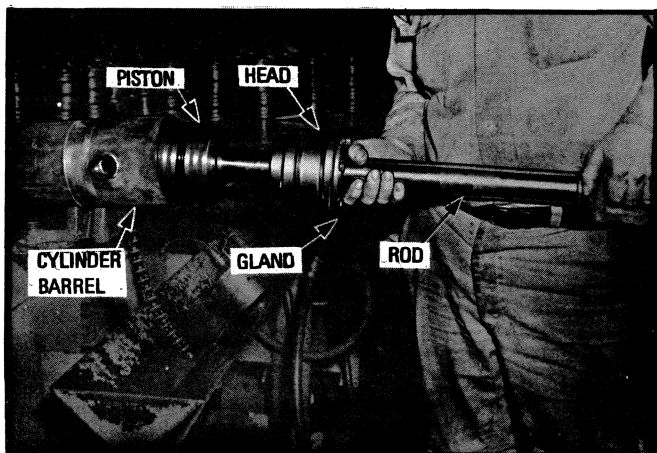

Fig. 4—Removal of Rod and Piston Assembly
5. The rod and piston assembly may then be removed from the barrel as shown in Fig. 4.